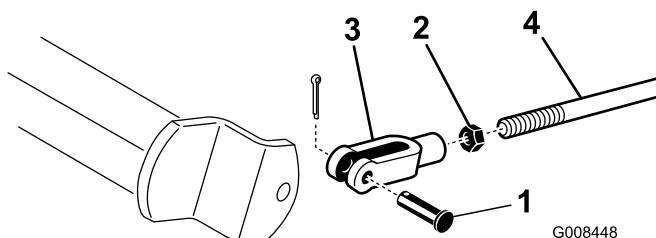

Figure 53
2. If the brakes do not lock equally, disconnect the brake rods by removing the cotter pin and clevis pin (Figure 53).
3. Loosen the jam nut and adjust the clevis accordingly (Figure 53).
4. Assemble the clevis to the brake shaft (Figure 53).